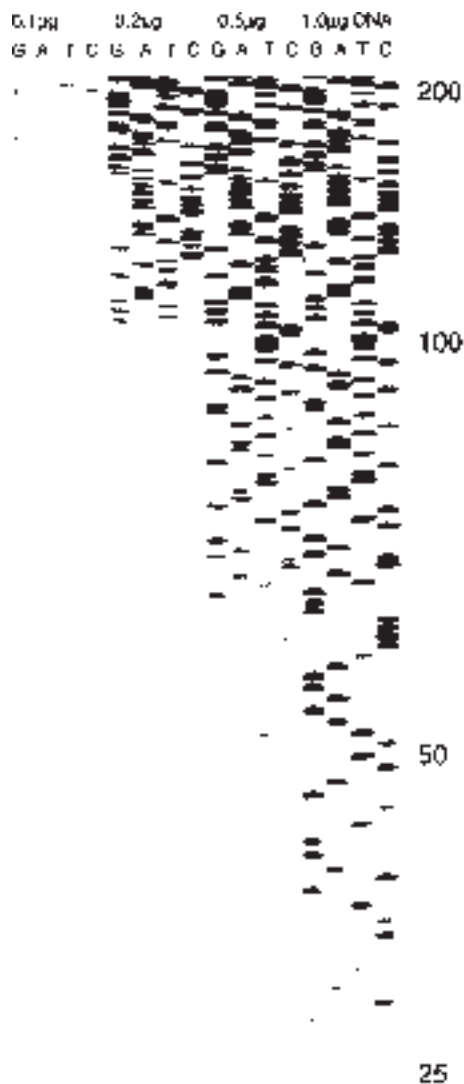

Figure 2. Normal sequences with Mg^{2+}
Mn Buffer Method—The general conditions will generate sequencing ladders which are faint or absent for nucleotides close to the primer if limited amounts of DNA (less than 0.5pmol or approximately 1µg of M13) are used for the reactions (Figure 2). A solution to this situation is to add the Mn Buffer provided with the Sequenase Quick-Denature plasmid sequencing kit. This reagent takes advantage of the activity of Sequenase Version 2.0 DNA polymerase in the presence of Mn^{2+} ions (3). The addition of Mn^{2+} to normal (Mg^{2+}) sequencing reactions (with fixed deoxy- to dideoxy- ratios) reduces the average length of DNA synthesized in the termination step, intensifying bands corresponding to sequences close to the primer. With Mn^{2+} , sequences from less than 20 nucleotides from the primer up to approximately 200 nucleotides can be observed even with reduced amounts of template (Figure 2).